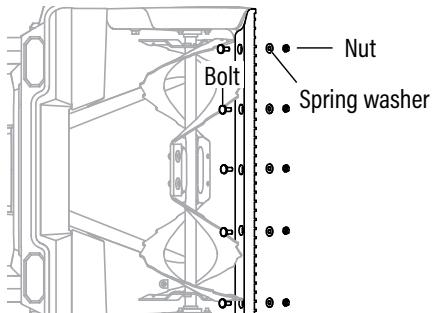

Fig.13B
2. Use a Hex wrench to remove the 5 nuts and washers under the bottom of the housing. Remove the worn scraper bar from the snow blower. (Fig. 13B)